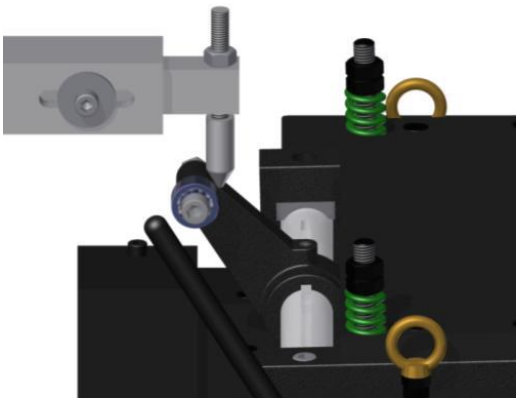

Figure 5
Refer to the figure 5 below for mechanical controls locations.
The optional Mechanical Roll Release Arm should be attached to the press ram by two screws M12 / 0.5 inch (not included in the shipping package). It must be mounted in such a way as to provide roll opening at the proper time and be adjustable for different die sets. Refer to Figure 5 for the dimensions of the Roll Release Arm. Make sure the tip of the threaded rod points at the front part of the release lever roller, as shown in the Figure 5.
9. Continue to jog the press slowly until the longest pilot just comes out of the material. Note the press positional readout and put this setting into your program for the ‘Feed Cam On’ setting. Set the ‘Feed Cam Off’ point so that there is enough time to complete the Feeder length and enough time to stop the press, if there is a feed fault. (See Figure 5.)
10. Set the ‘Reset Cam On’ for 180 degrees and ‘Reset Cam Off’ for 200 degrees. This setting should never need changing. (See Figure 5.)